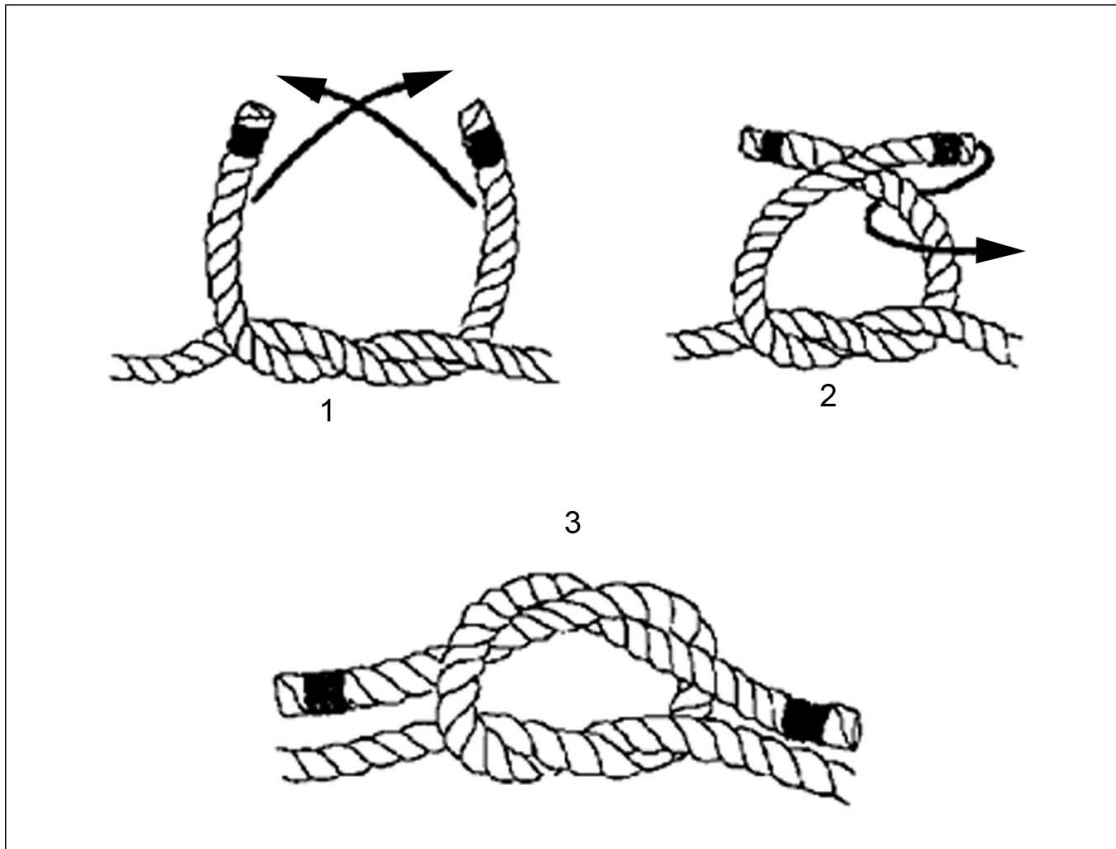

Figure 052-204-1204-1
1. Tie a square knot (Figure 052-204-1204-1). Use this knot to bend lines together. It is a very secure knot that will not slip.